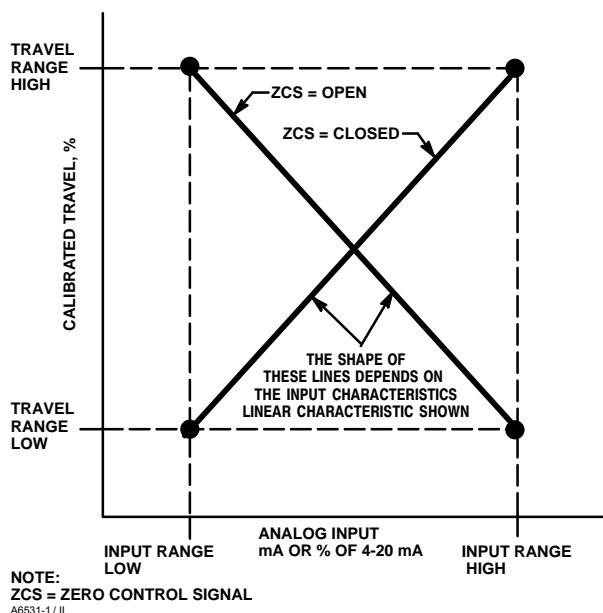

Figure 4-1. Calibrated Travel to Analog Input Relationship
- **Analog In Range Hi**—Permits setting the Input Range High value. Input Range High should correspond to Travel Range High, if the Zero Control Signal is configured as closed. If the Zero Control Signal is configured as open, Input Range High corresponds to Travel Range Low. See figure 4-1.
- **Analog In Range Lo**—Permits setting the Input Range Low value. Input Range Low should correspond to Travel Range Low, if the Zero Control Signal is configured as closed. If the Zero Control Signal is configured as open, Input Range Low corresponds to Travel Range High. See figure 4-1.